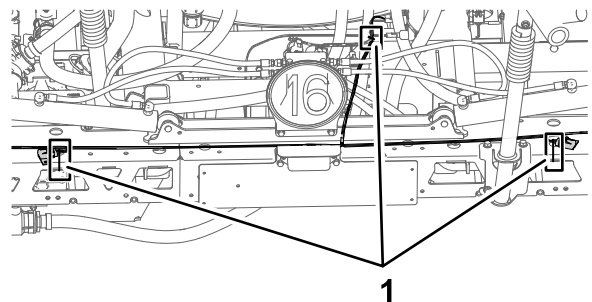

Figure 60
6. Secure the wire harness trunk, 89 cm (35 inches) wire harness branch, 71 cm (28 inches) wire harness branch with 3 cable ties as illustrated in Figure 60.